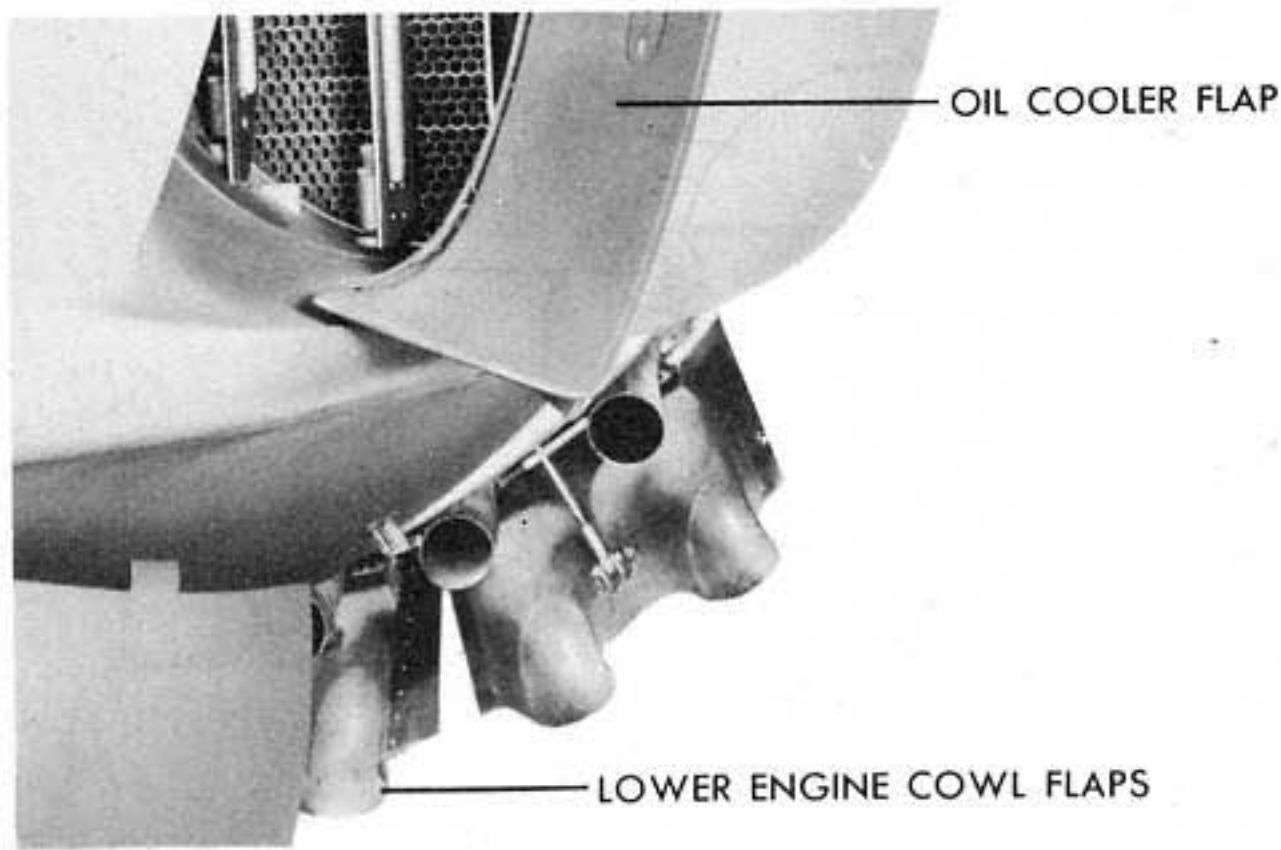

Figure 109 - ENGINE COWL AND OIL COOLER FLAPS
(1) GENERAL. - Engine and propeller controls are grouped on the left side of the pilot's cockpit. Cables attached to control handle pulleys provide the means of adjusting the engine and propeller controls. From the control handle pulleys, the cables run aft to the main spar in the fuselage, outboard to the left-hand side of their respective nacelles, and down to the differential pulley beam aft of the fire wall. Cables provide the operation of the controls forward of the fire wall. All control cables are of 3/32 inch 7 by 7 preformed flexible steel wire. For identification, colored bands of paint will be found on all cables.
(2) ENGINE COWL AND OIL COOLER FLAP CONTROLS. (See figure 109.) - The engine cowl flaps are actuated by hydraulic pressure and are controlled by valves located on the panel at the right side of the pilot's seat. Upper cowl flaps for each engine are controlled in unison by a single valve handle. Lower cowl flaps for each engine are controlled by individual valve handles. The oil cooler flaps are connected by cables to the lower cowl flap mechanism and operate simultaneously with the lower cowl flaps. To open the cowl flaps, move the respective control to OPEN position; when the flaps are open as desired, return the control to NEUTRAL position. To avoid buffeting, the upper cowl flaps should be closed at all times in flight and opened only while the engines are running on the ground.